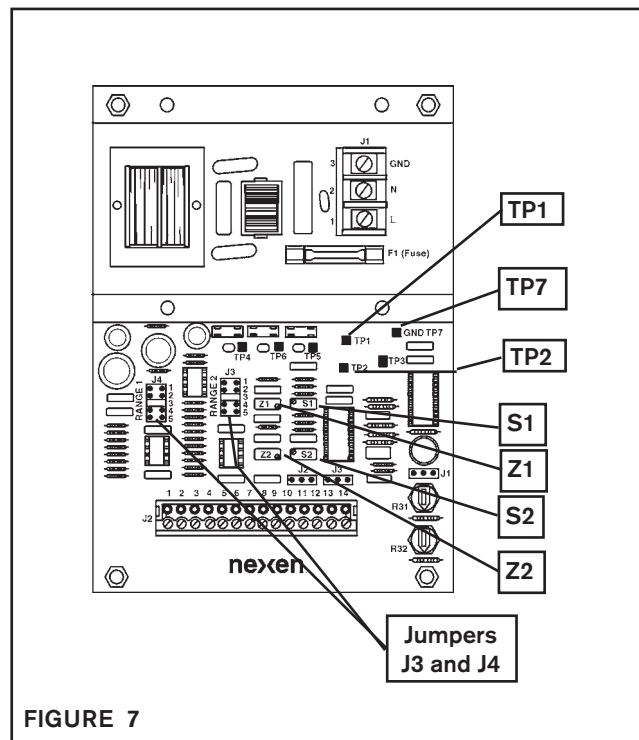

FIGURE 7
3. Rotate both **S1** and **S2** counterclockwise to minimum (See Figure 7).
4. Connect a voltmeter to **TP7 (COM)** and **TP1** (See Figure 7).
5. Rotate **Z1** to read 0.00VDC at **TP1** (See Figure 7).
6. Connect a voltmeter to **TP7 (COM)** and **TP2** (See Figure 7).
7. Rotate **Z2** to read 0.00VDC at **TP2** (See Figure 7).